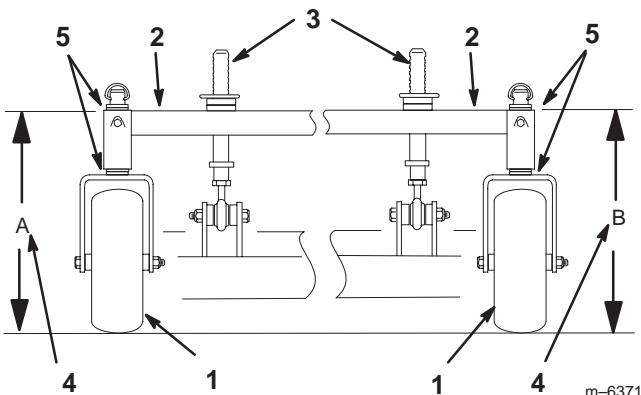

Figure 69
4. Measure carrier frame height at location A (Fig. 69).
5. Measure carrier frame height at location B (Fig. 69).